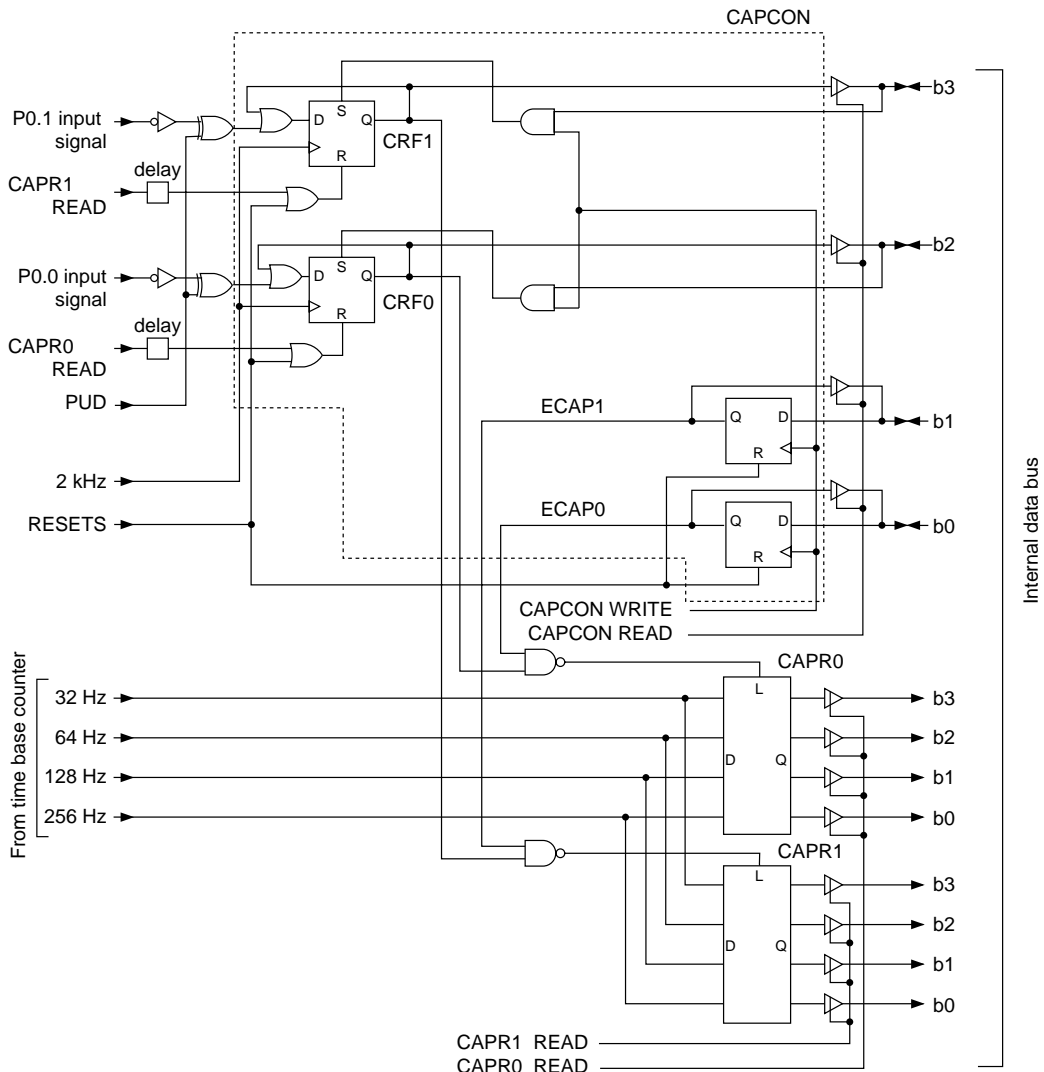

Figure 10-1 Layout of Capture Circuit
Figure 10-1 shows the layout of the capture circuit.
In Figure 10-1, CRF0 is set to "1" at the rising edge of 2 kHz output of the time base counter either when P0.0 input signal becomes "L" level selecting pull-up resistance input or when it becomes "H" level selecting pull-down resistance input while ECAP0 is set to "1" (① in Figure 10-2). When CRF0 is set to "1", the latch signal of the Capture data register 0 (CAPR0) becomes "L" level and 32 Hz to 256 Hz of the time base counter is latched to CAPR0 (②). When CAPR0 is read out, CRF0 is reset to "0" (③).
In Figure 10-1, CRF1 is set to "1" at the rising edge of 2 kHz output of the time base counter either when P1.1 of the input port becomes "L" level selecting pull-up resistance input or when it becomes "H" level selecting pull-down resistance input while ECAP1 is set to "1". When CRF1 is set to "1", the latch signal of the Capture data register 1 (CAPR1) becomes "L" level and 32 Hz to 256 Hz of the time base counter is latched to CAPR1. When CAPR1 is read out, CRF1 is reset to "0".